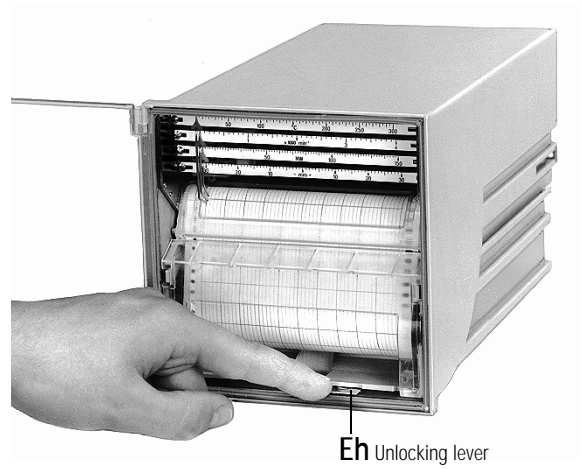
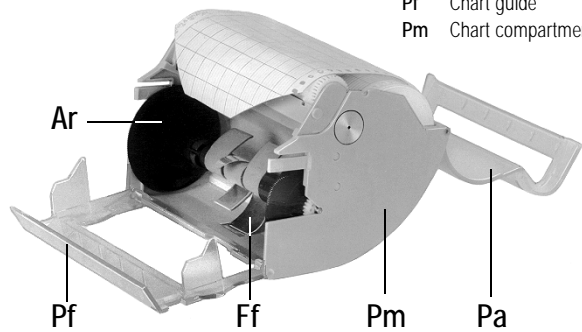
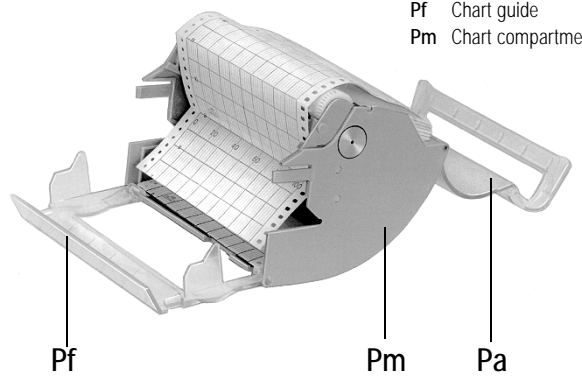

Figure 5 Unlocking the recording table
Figure 6 Recording table for roll chart
Figure 7 Recording table for fanfold chart
(see figure 5 and figure 6)
1. Unlock the recording table: Press the unlocking lever **Eh** downwards (see figure 5). The recording table tilts to the front. Remove the recording table.
(see fig. 5, fig. 6 and fig. 7)
When changing the recording table for roll chart to fanfold chart, remove the guide spring **Ff** (see figure 6).
1. Unlock the recording table: Press the unlocking lever **Eh** downwards (see figure 5). The recording table tilts to the front.